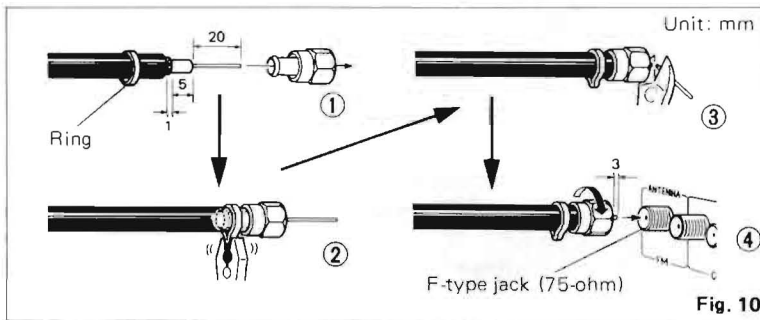

Fig. 10
- Connection of the F-type connector and the F-type input jack of the 75-ohm coaxial cable (Fig. 10)